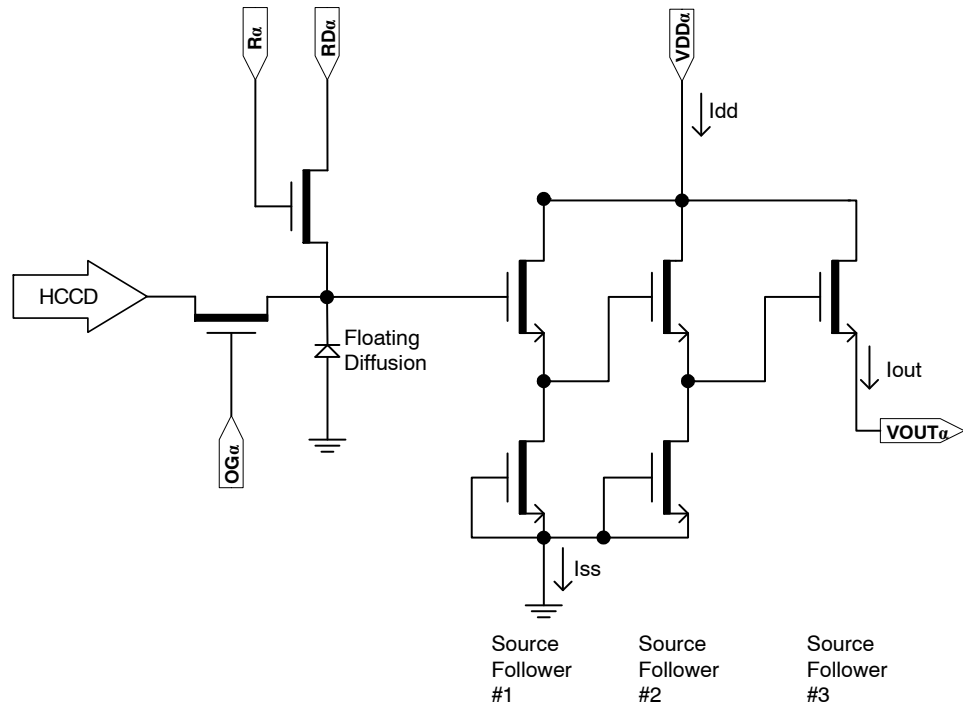

Figure 18. Output Amplifier
2. The maximum DC current is for one output.  $I_{dd} = I_{out} + I_{ss}$ . See Figure 18.